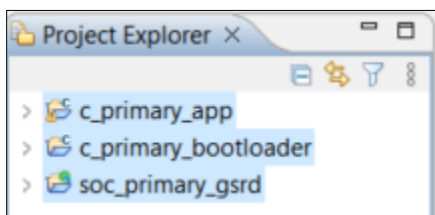

Figure 7.44. Workspace
11. Press **Ctrl + s** to save the change as shown in Figure 7.44.